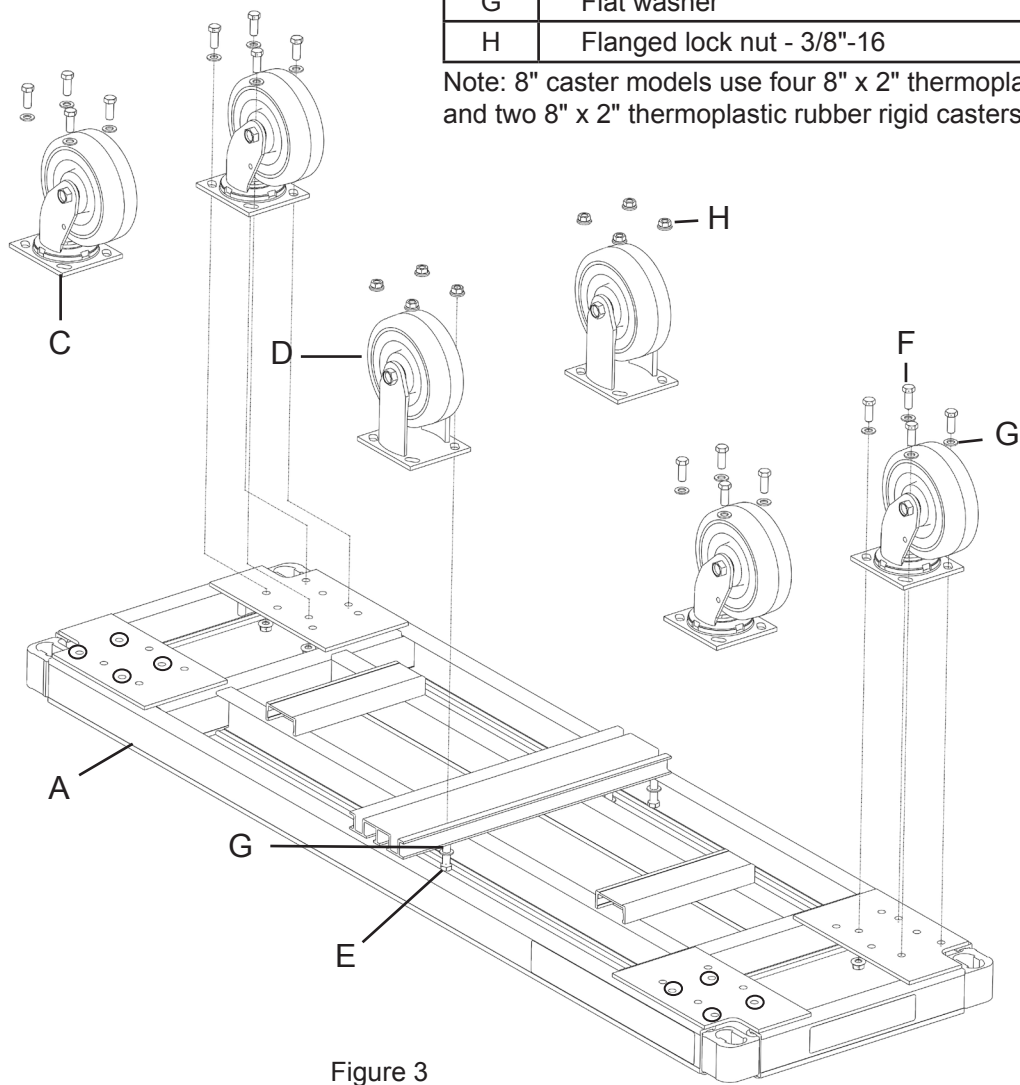

Figure 3
1. Using the 3/8"-16 x 1" long hex head screws (F), 3/8"-16 flat washers (G) and 3/8"-16 flanged hex lock nuts (H), attach all four of the 6" swivel casters (C) onto the deck as shown in Figure 3.
2. Using the 3/8"-16 x 2" long hex head screws (E), the 3/8" washers (G) and the 3/8"-16 flanged hex lock nuts (H), attach both of the 6" rigid casters (D) onto the deck as shown in Figure 3.